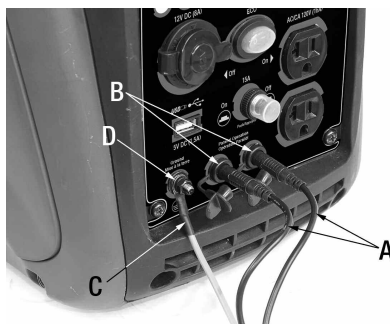

Figure 1
- 1) Connect the two parallel connectors (A) Fig.1 from one cable to the parallel inputs (B) on the control panel of the first Inverter Generator.
- 3) Attach the ground wire (C) Fig.1 to the ground terminal (D) on the control panel of the first Inverter Generator.